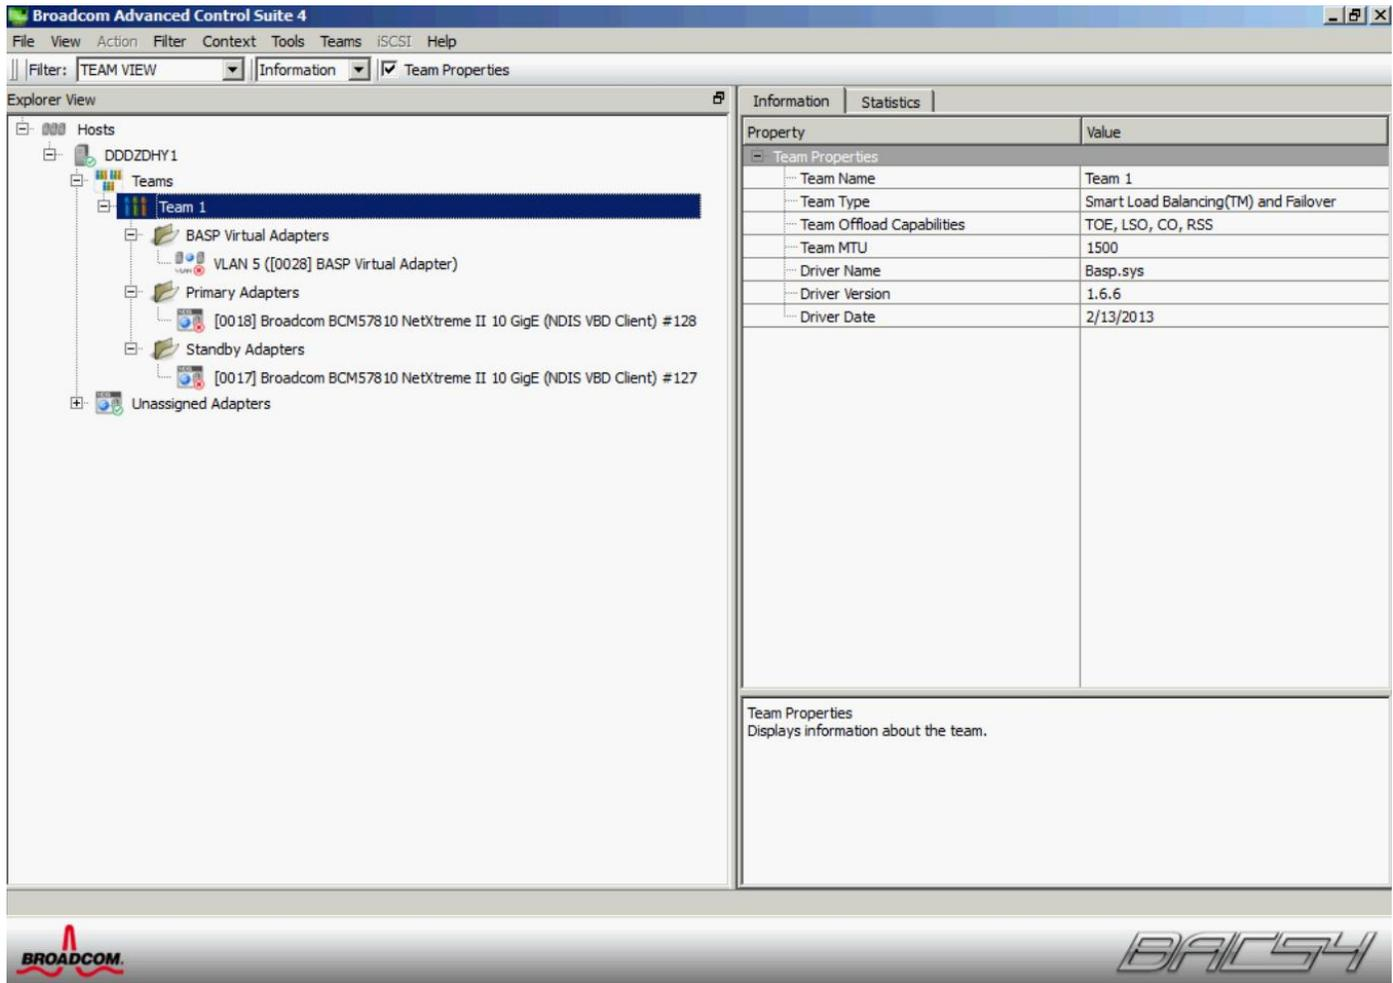

Figure 25 'TEAM VIEW' displaying the created NIC team
19. The CNA configuration for both LAN and SAN traffic is now complete. The created NIC team can be displayed by expanding the adapters under TEAM VIEW (Figure 25).